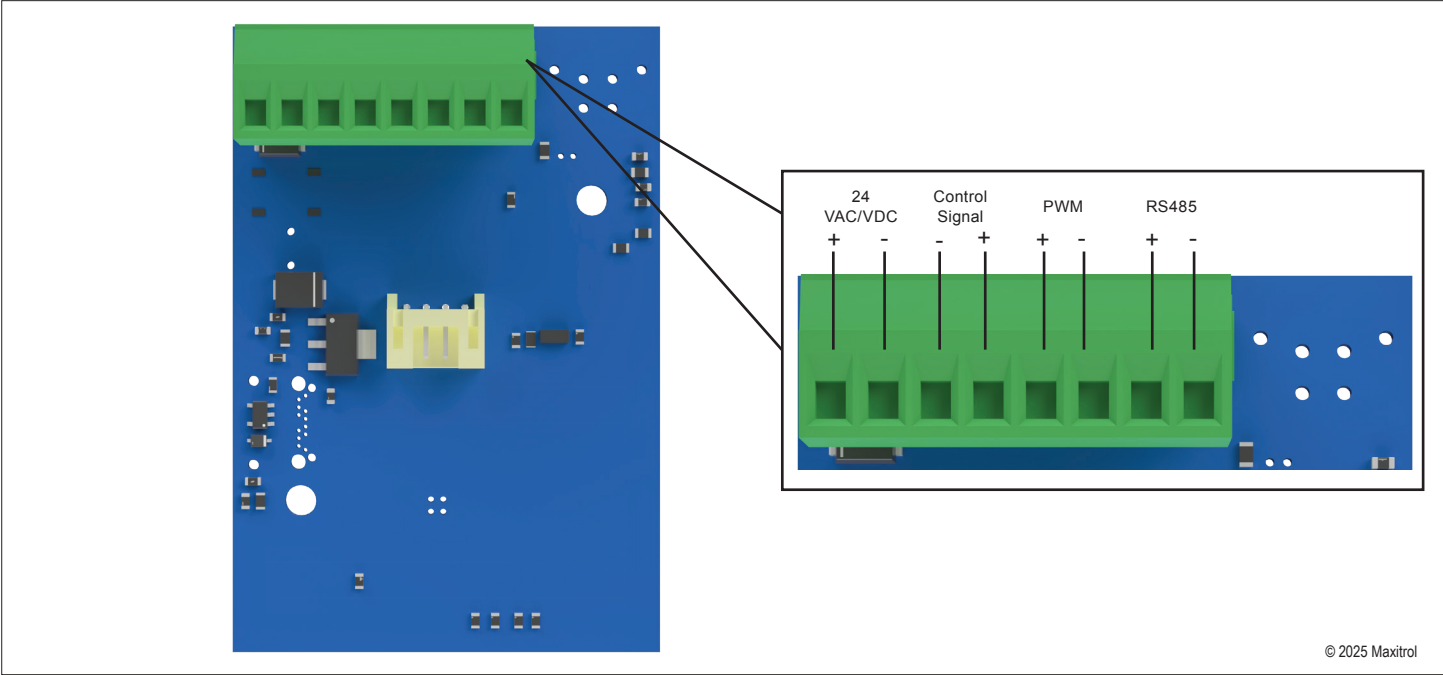

Figure 2: EXA Modulating Valve Series Connections
Step 5: Optional ModBus Control - set DS1-1 to ON to enable (see Figure 2, page 5; Table 8, page 4). DS1-1 ON will disable Step 4 setting.
Observe polarity (see Figure 2, page 5).